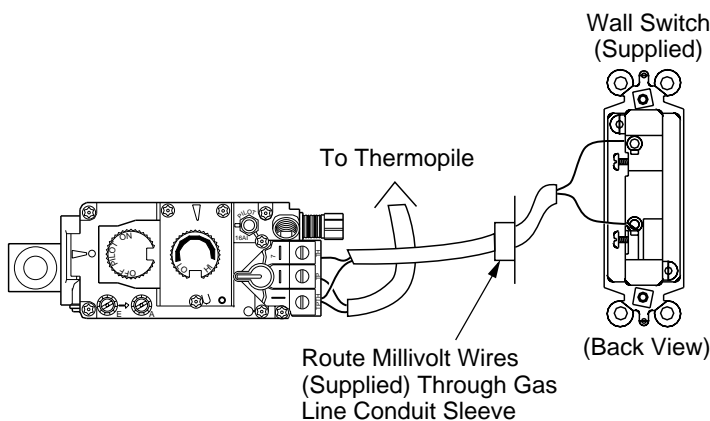

Figure 33 - Wall Switch Wiring Diagram
2. Connect the 18 ga. wires from wall switch to the gas control valve and microswitch, as shown in Figure 33.
2. Disconnect wall switch wires from TH and TPTH terminals on control valve (see Figure 33).